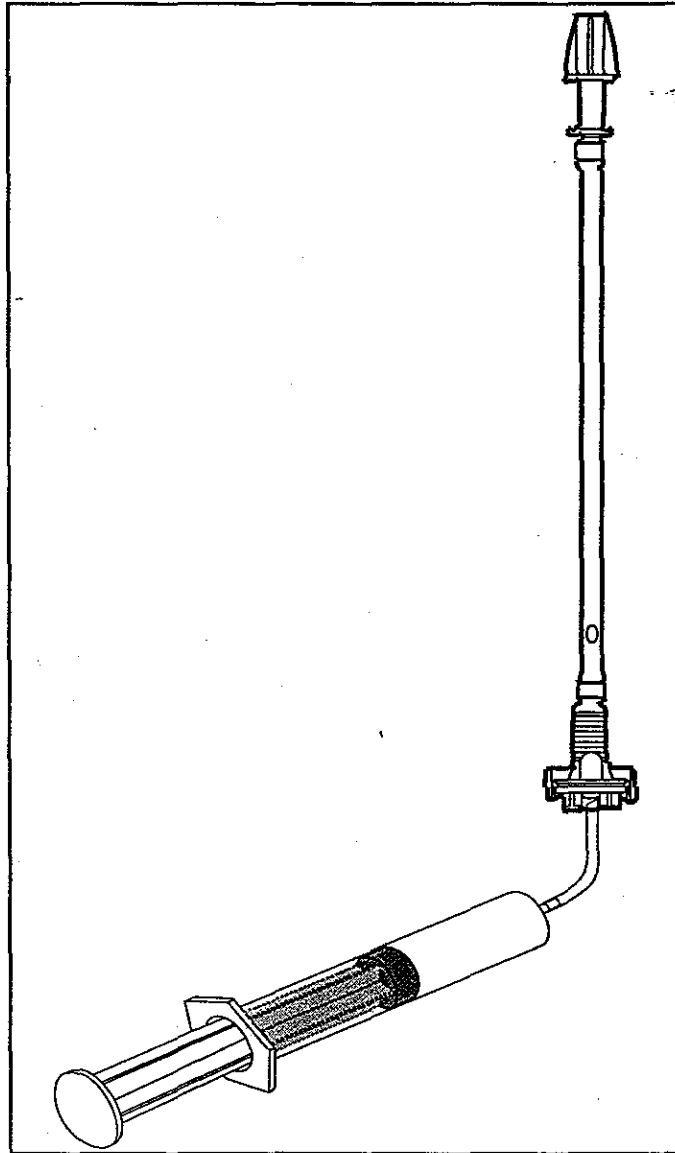

Figure 7-2. Air-In-Line Simulator
2. Install the pumping segment of the AIL simulator (see Figure 7-2) into the pumping mechanism, then press the tubing into the AIL detector.